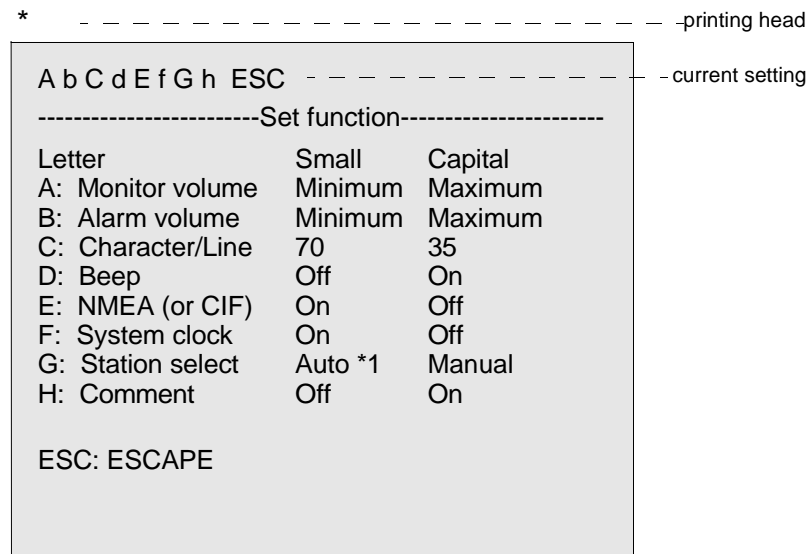

Figure 11. Main Menu C
35. Select “C” on the Main Menu. The following is printed out (figure 11).